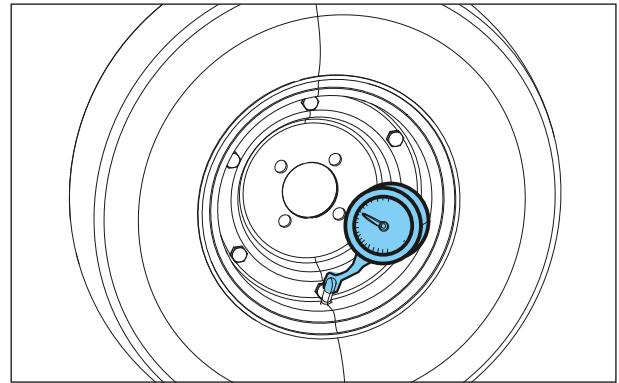

Fig. 2.116
- Under inflated tyres wear faster, affect stability and smooth cornering. Over inflated tyres decrease area of tyre contact with ground causing skid or loss of control. (Fig.2.116)